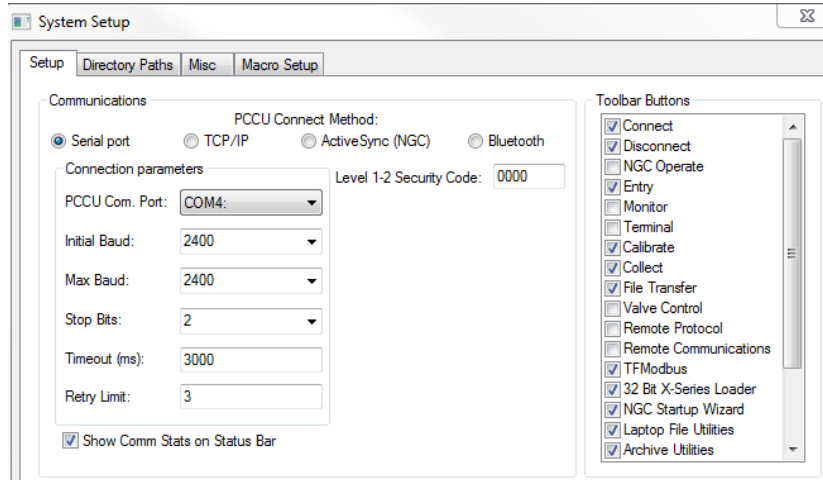

Figure 26: PCCU system setup (USB communication)
11. On the PCCU32 tool bar menu, click **Setup**. The System Setup window displays (Figure 26).